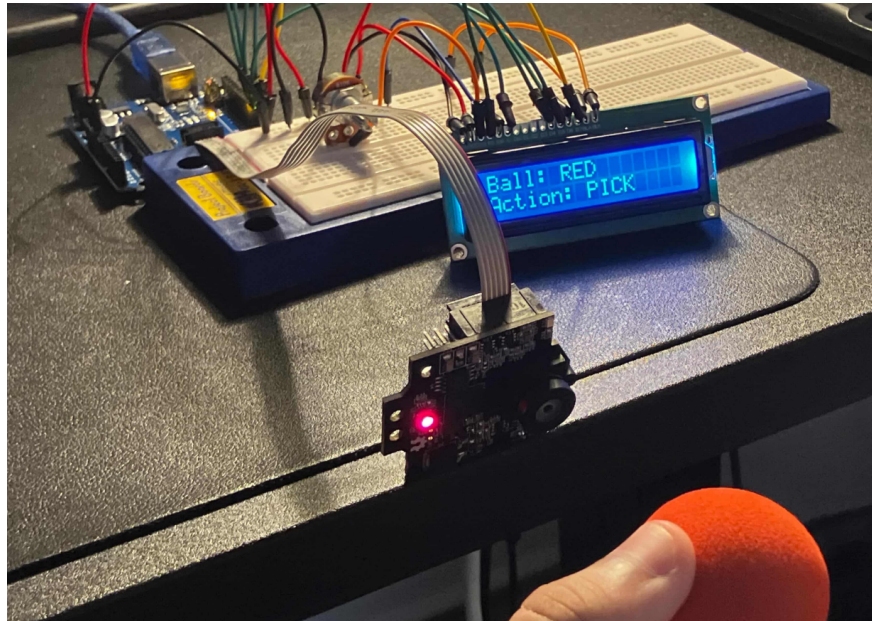
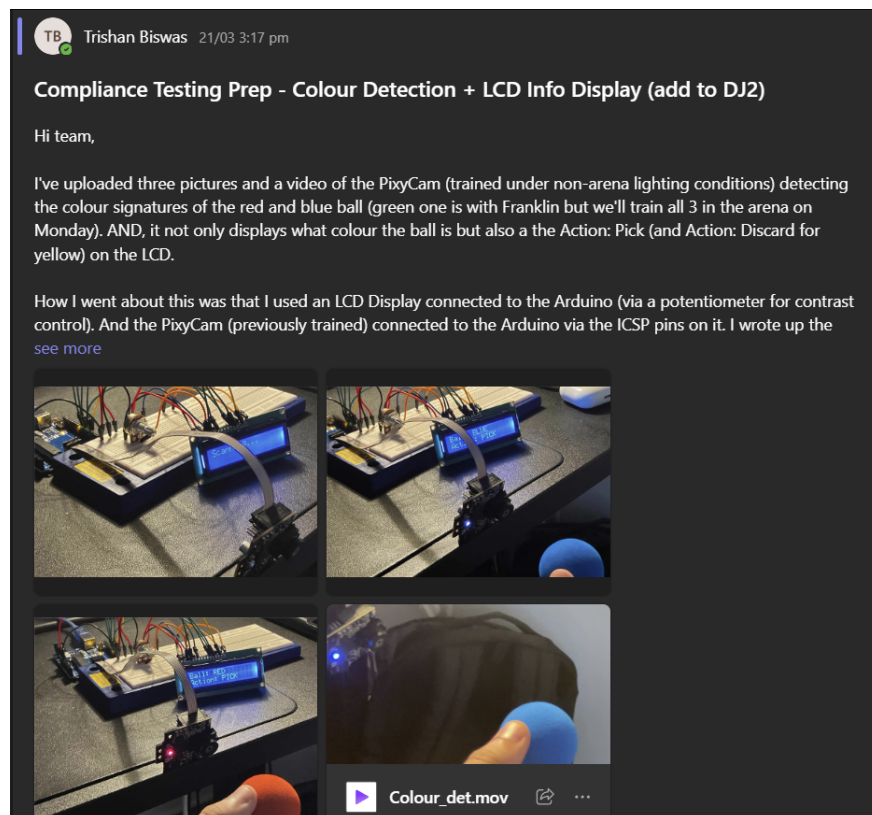

Figure 5: LCD displaying colour detection result from Pixy2 during testing. **Done by me**
Figure 6: Teams post communicating the Pixy2 + LCD test results to the team. **Posted by me**
I tested all three ball colours (red, green, blue) by placing the foam balls in front of the Pixy2 and checking whether the LCD correctly displayed the corresponding action. For red (signature 1), the LCD would display "Pick – RED (HDPE)." For green (signature 2), it displayed "Pick – GREEN (PET)." For blue (signature 3), it displayed "Pick – BLUE (PP)." And when a yellow ball was presented (or no target colour detected), the display showed an ignore/avoid response. See **Figure 5** for the LCD displaying a detection result and **Figure 6** for my Teams post communicating the results to the team.